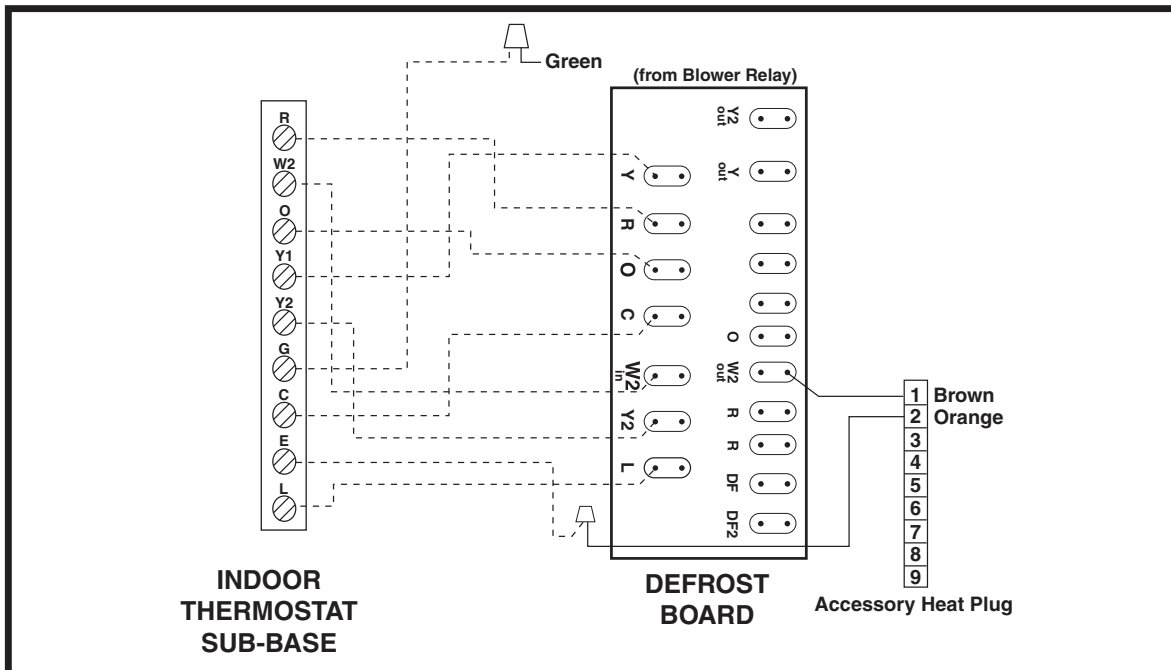

Figure 9. Typical Wiring (Field Supplied) for 2-Stage Cool, 2 Stage Electric Heat
2. Extend leads through power wiring hole (Figure 9). Connect **L1** and **L2** directly to the contactor.
2. Connect the control wires to the defrost board and blower relay wire (Figure 9, page 10).
Connect the low voltage wires to the respective terminals on the thermostat base (Figure 9). See thermostat instruction sheet for more detailed information.